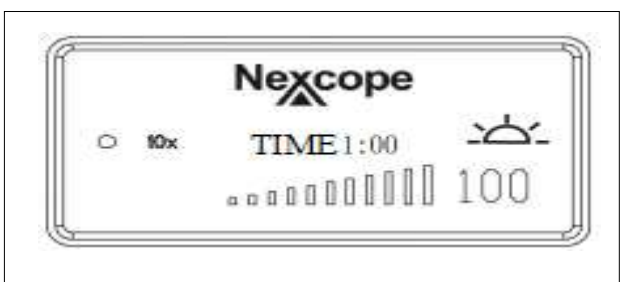

Fig.13.2
4. Time setting for pedestrian lights off: Select Time through the knob, click the knob to enter the time setting state, as shown in Figure 13.2. Turning the knob can achieve an increase or decrease in time, with a score grid value of 5 minutes; Up to 8 hours can be set. After setting to the desired time, the setting is successful when the time number jumps three times and stops jumping. Time begins to decrease by minute.